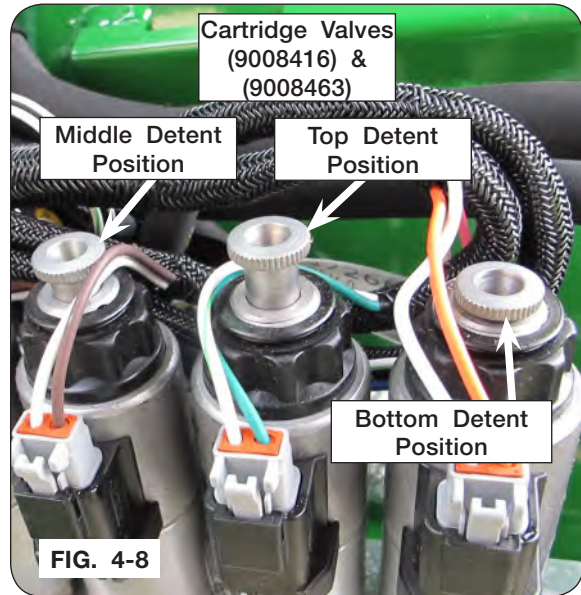

FIG. 4-8
NOTE: Only one cartridge valve (9008416 & 9008463) may be in the top or bottom detent position at a time to function properly. All other valves must be in the middle detent position. (Figs. 4-8 & 4-9)
5. Operate the desired function on valve (9008416 & 9008463) by rotating the manual override knurled knob from the locked neutral position. (Figs. 4-8 & 4-9)
8. Return knurled knob to center and lock valve (9008416) & (9008463) in position. (Figs. 4-8 & 4-9)